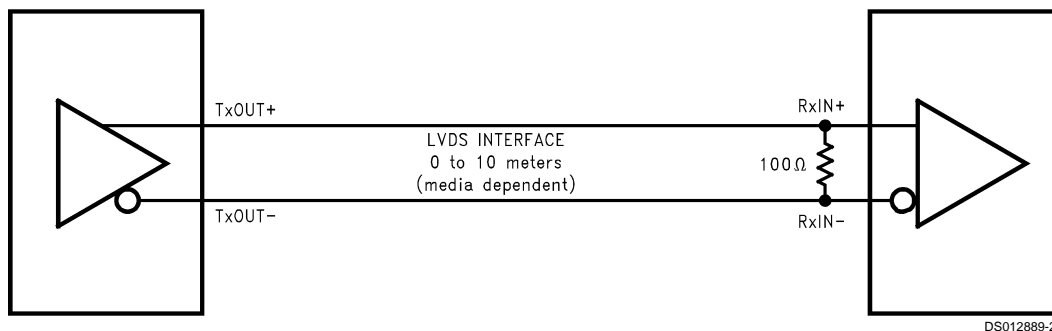

FIGURE 18. LVDS Serialized Link Termination
**TERMINATION:** Use of current mode drivers requires a terminating resistor across the receiver inputs. The CHANNEL LINK chipset will normally require a single  $100\Omega$  resistor between the true and complement lines on each differential pair of the receiver input. The actual value of the termination resistor should be selected to match the differential mode characteristic impedance ( $90\Omega$  to  $120\Omega$  typical) of the cable. *Figure 18* shows an example. No additional pull-up or pull-down resistors are necessary as with some other differential technologies such as PECL. Surface mount resistors are recommended to avoid the additional inductance that accompanies leaded resistors. These resistors should be placed as close as possible to the receiver input pins to reduce stubs and effectively terminate the differential lines.